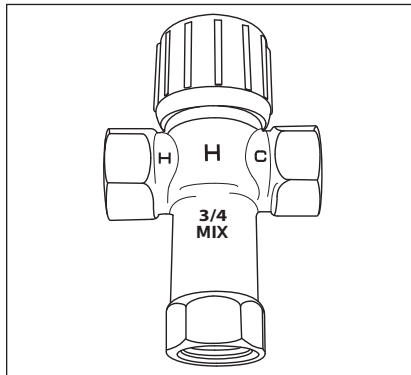

Figure 8 - Thermostatic Mixing Valves installed at each point-of-use can help avoid scalding.
- Point-of-use Thermostatic Mixing Valves (Figure 8 on page 8)
Install Thermostatic Mixing Valves (Figure 8) to regulate the temperature of the water supplied to each point-of-use (for example, the kitchen sink, bathroom sink, bath and shower). Consult the valve manufacturer’s instructions or a qualified person.
▲ WARNING! Even if the water heater thermostat is set to a relatively low temperature, hot water can scald. Install Thermostatic Mixing Valves at each point-of-use to reduce the risk of scalding (see page 4 and Figure 8).